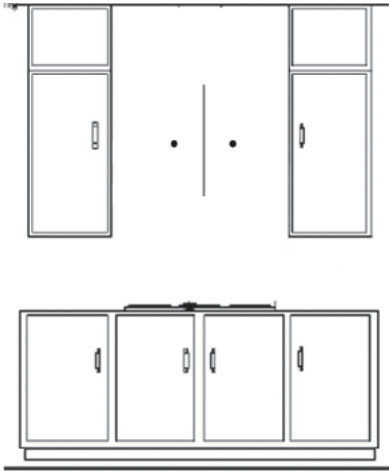

Figure 1
1. Find the center of the wall where you are installing the hood. Make sure there is sufficient bracing to hold the weight of the hood. Mark your center line and measure out from the center to find your two mounting points. Make sure your mounting points are level when you mark them. It is recommended to install the hood directly into wood supports. *Figure 1*
2. Mark the mounting points and install the two mounting screws provided leaving the heads out  $\frac{1}{4}$ " to mount the hood. *Figure 1*